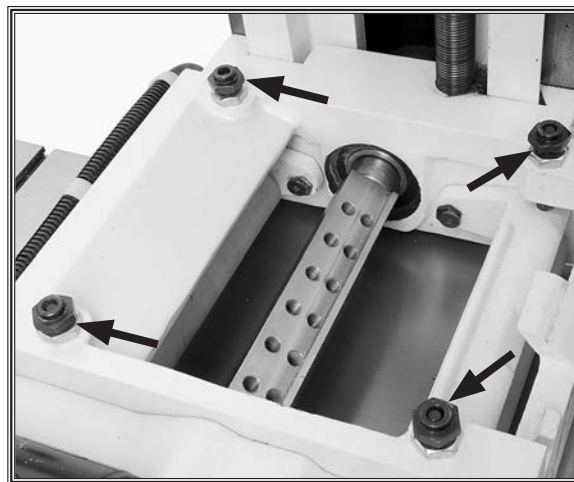

Figure 32. Feed roller spring tension nuts.
3. Completely loosen the four spring tensioner nuts (see **Figure 32**), and unthread the tensioner assemblies until they are not touching the springs.